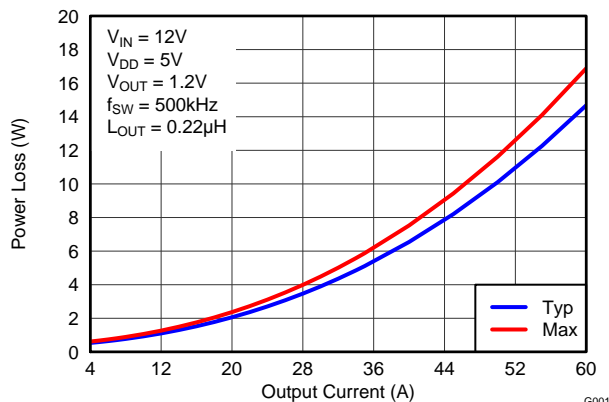

Figure 3. Power Loss vs Output Current
MOSFET centric parameters such as $R_{DS(ON)}$ and Q_{gd} are primarily needed by engineers to estimate the loss generated by the devices. In an effort to simplify the design process for engineers, Texas Instruments has provided measured power loss performance curves. Figure 3 plots the power loss of the CSD95372AQ5M as a function of load current. This curve is measured by configuring and running the CSD95372AQ5M as it would be in the final application (see). The measured power loss is the CSD95372AQ5M device power loss which consists of both input conversion loss and gate drive loss. Equation 1 is used to generate the power loss curve.
The power loss curve in Figure 3 is measured at the maximum recommended junction temperature of $T_J = 125^\circ\text{C}$ under isothermal test conditions.
- Typical Power Loss at 40A = 6.5W (Figure 3)